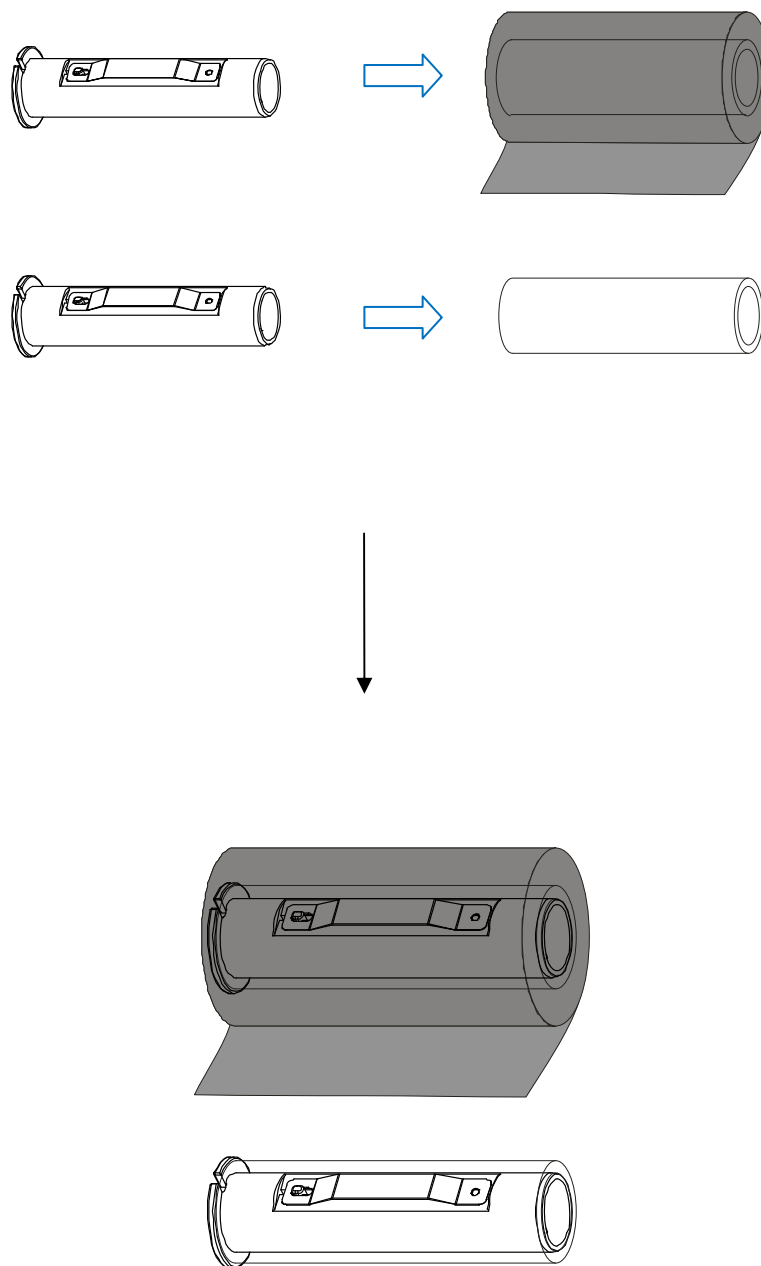

Figure 5-3
4. Unwrap the ribbon roll pack and separate the ribbon roll and the core. (see Figure 5-3)
5. Slide the roll of Ribbon onto one of one Ribbon Spindle. (see Figure 5-3)
7. Slide the ribbon take up core onto the other Ribbon Spindle. (see Figure 5-3)